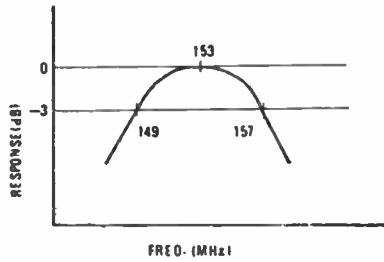

FIGURE 5. VHF RF CHARACTERISTIC
Step 2: Adjust L11 and L12(Antenna coil) for maximum output and best symmetry curve as shown in Figure 5.